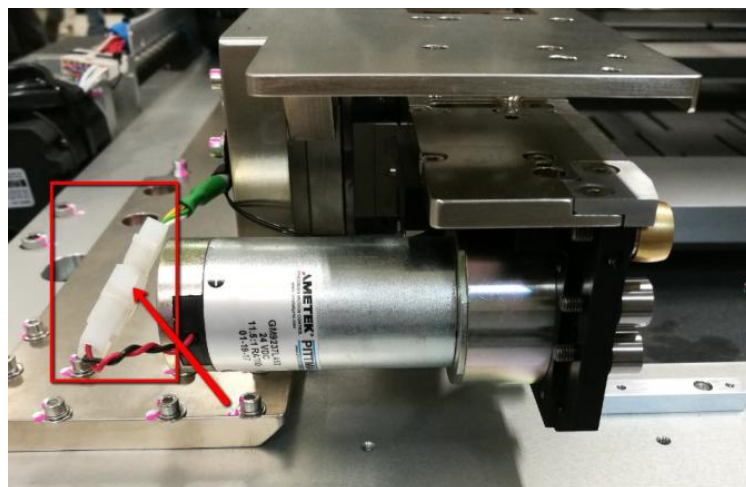

Figure 11 Conveyor mote cable connector
4. Plug Conveyor Connector as shown in Figure 11.